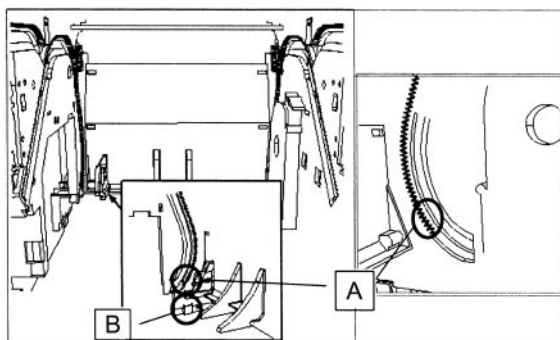

Figure 5-10 . General check points (A) and (B) on the Stacker Presenter SP100 and SP101.
1. Verify that the cog rail is not damaged or worn on either sideplate around the bundle carrier unit home poition (Callout A in Figure 5-10)
2. Verify that there are not any cracks in the plastic part on the base plate that open the buldle carrier unit. (Callout B in Figure 5-10)